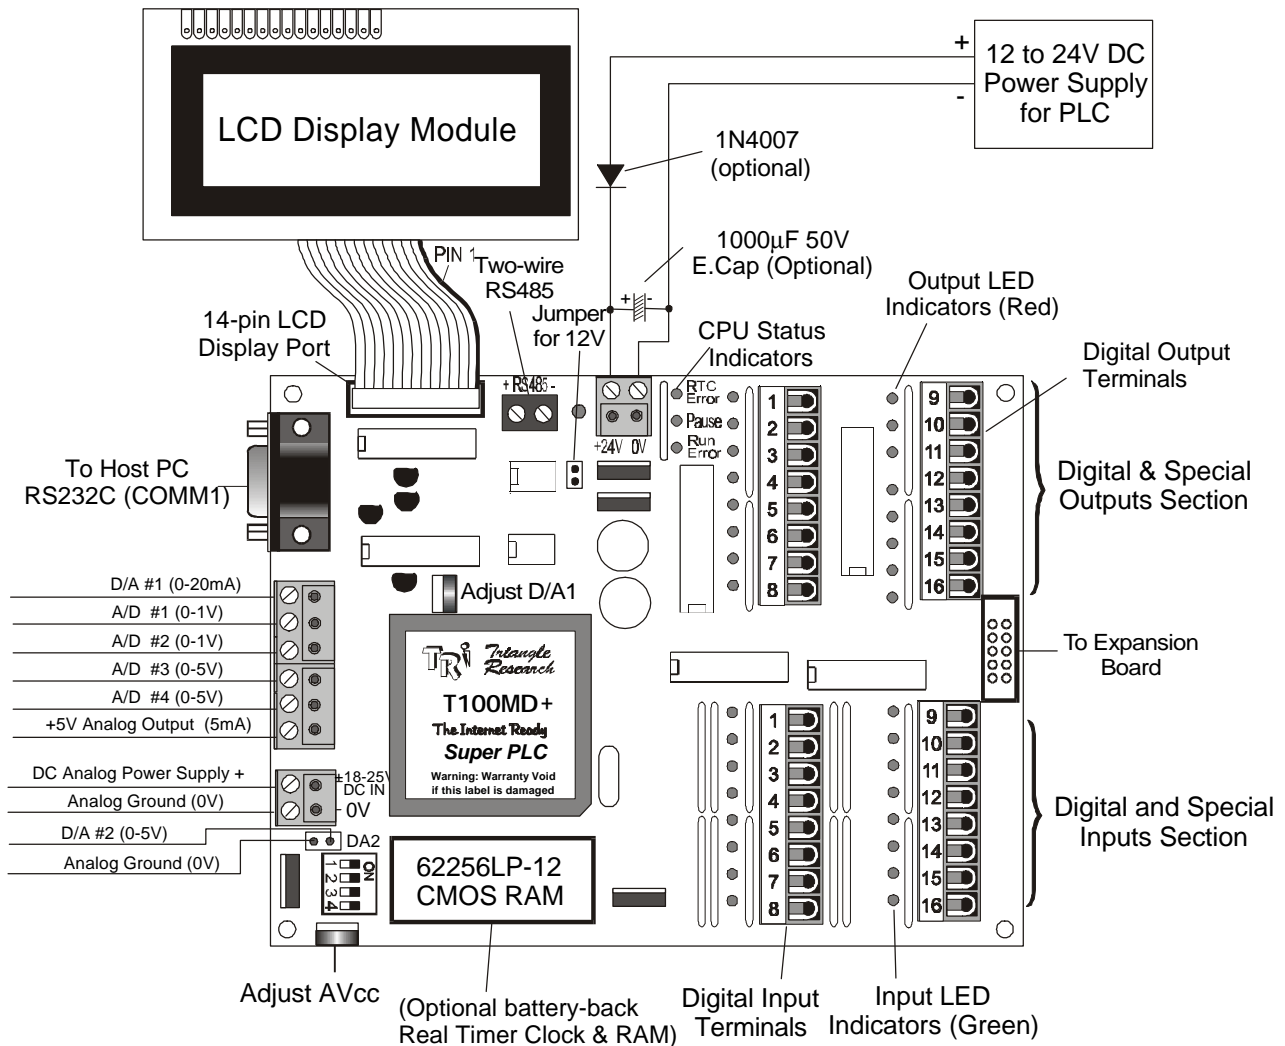

Figure 1 - T100MD-1616+ and 4x20 LCD Module
**Analog I/O Ports:** The analog I/Os and the analog power supply connection are located along the left edge of the PCB via a 6-way detachable screw-terminals and a 2-way screw terminal below it as shown in Figure 1.